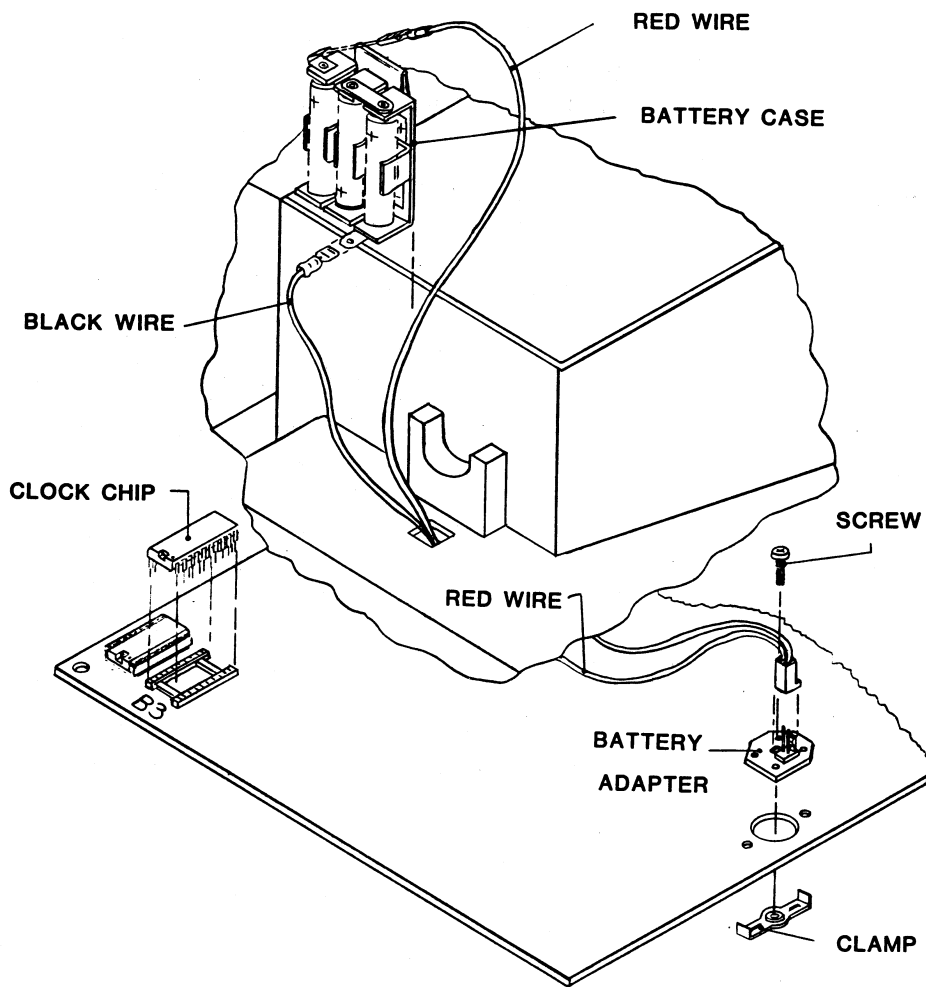

FIGURE 1
2. Place the main logic board on a flat surface in front of you so that the empty socket at B3 is located to your left. Insert the clock chip into the empty socket with the notch on top of the chip facing toward the front, as shown in Figure 1.
3. Lift the main logic board gently and place the clamp through the two holes on the middle right-hand side of the main logic board as shown in Figure 1. Hold the clamp in place with your finger.
4. Place the battery adapter PCB over the large hole with the long, flat side of the battery adapter PCB toward the right edge of the main logic board as shown in Figure 1. The battery adapter PCB should be seated between the legs of the clamp.
6. Install 3 "AA" alkaline batteries into the battery pack as labeled in Figure 1, and on the battery pack. Now attach the lugs of the red and black wires of the battery cable to the battery case. Observe the proper polarity as shown in Figure 1.
7. Turn the Apple III right-side up. Clip the battery case onto the lip of the casting to the left of the speaker. Run the molex connector end of the battery cable down through the hole below the speaker on the Apple III as shown in Figure 1.